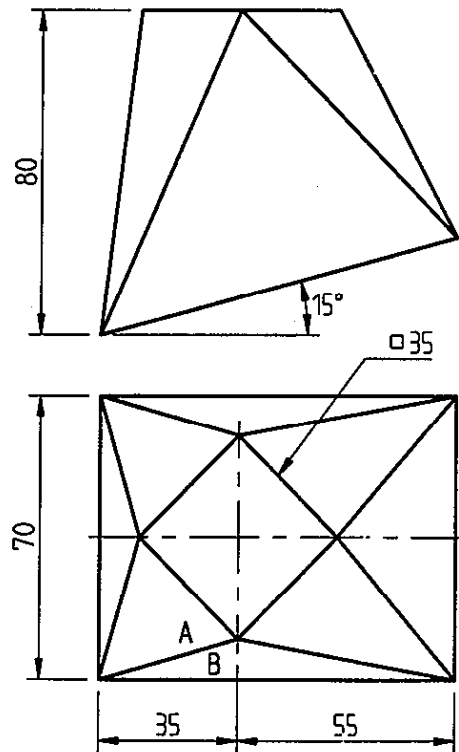

FIG. 4
4. The elevation and plan of a square to rectangle transition piece are shown in Fig. 4.